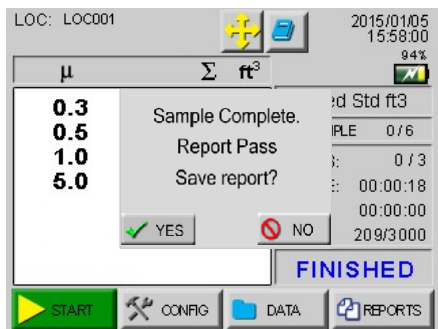

Figure 5-67 Save Reports Prompt
- After all of the required samples have been completed, the instrument will prompt the user to Save the Report Session as shown in Figure 5-67.